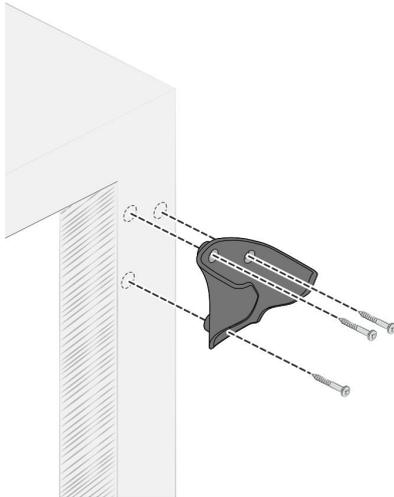

Fig. 51 Assembling the handheld controller bracket
18. Align the bracket for the handheld controller as shown in **Fig. 51** on a flat surface outside the robot's working space.
Fig. 51 shows assembly of the bracket on the table leg as an example.
Use the screw driller to screw three screws through the openings in the bracket into the markings on the table **Fig. 51**.